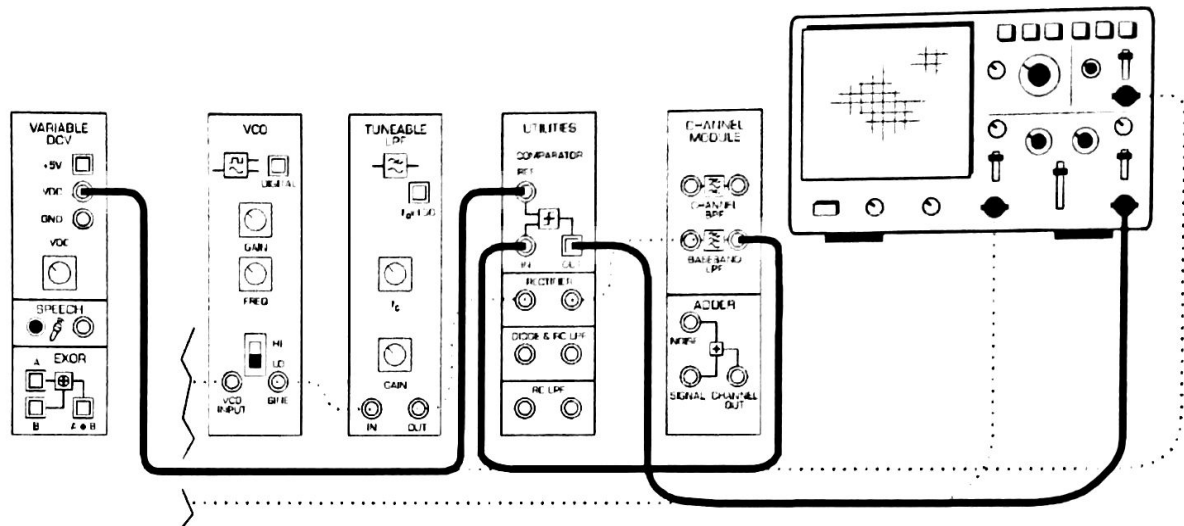

Figure 8
23. Modify the set-up as shown in Figure 8 below.